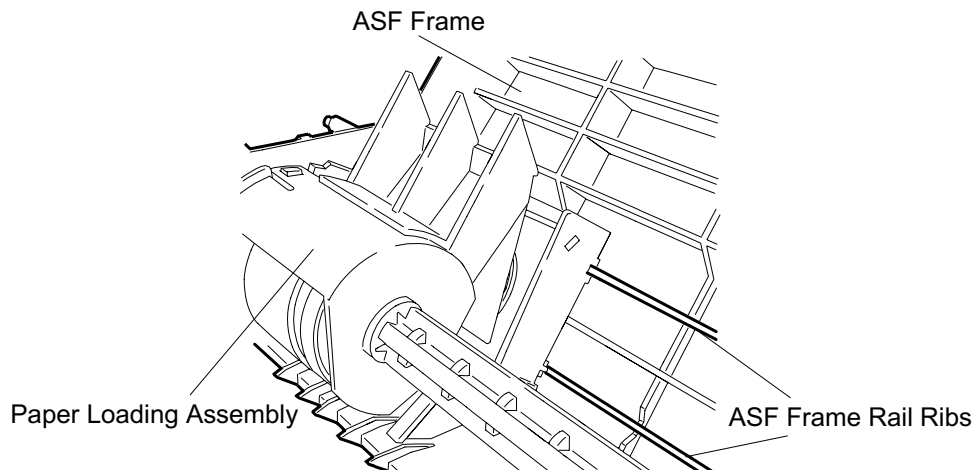

Figure 3-30 Paper Loading Roller Installation
- ❑ When installing the LD roller shaft into the ASF frame after mounting both paper loading assemblies, shift the right paper loading assembly to the right edge of the ASF frame, then fix it by aligning the groove in the back of the paper loading assembly, however, moves freely from left to right or vice versa. (See Figure 3-30)